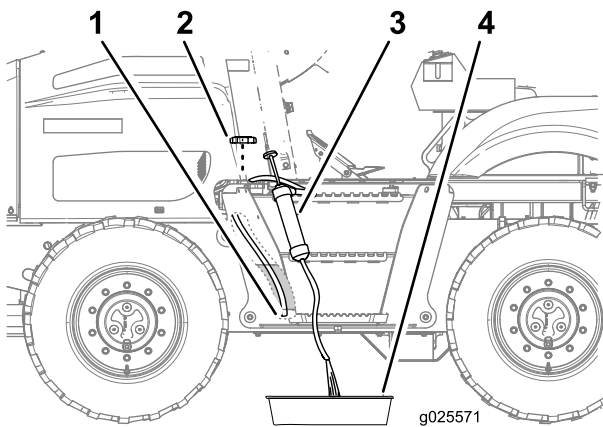

Figure 72
2. Route the intake hose of the siphoning equipment through the filler neck of the fuel tank and to the bottom of the tank (Figure 72).
3. Direct the discharge hose of the siphoning equipment into a drain pan (Figure 72).
6. Install the fuel cap onto the filler neck of the fuel tank (Figure 72).